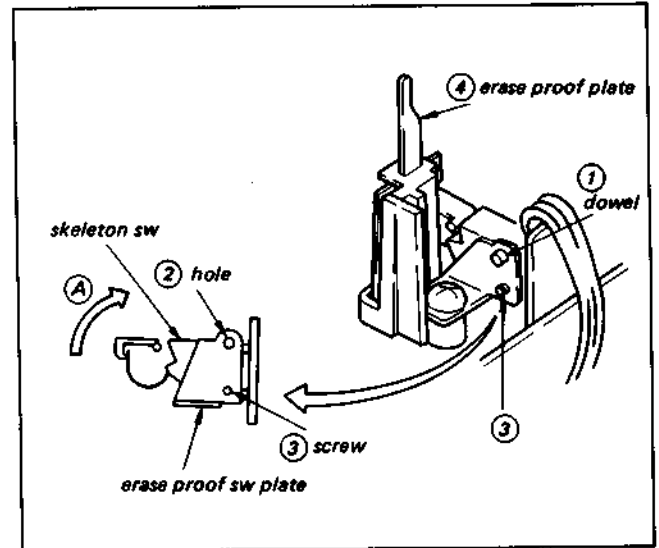

Fig. 3-27. Position adjustment of microswitch (1)
- 1) Insert dowel ① into hole ②, as shown in Fig. 3-27, pull in the direction of arrow (A), and tighten screw ③.
- 2) Place a cassette with unbroken erase proof hooks on the ④ cassette guide spindles and confirm that the erase proof switch goes on.